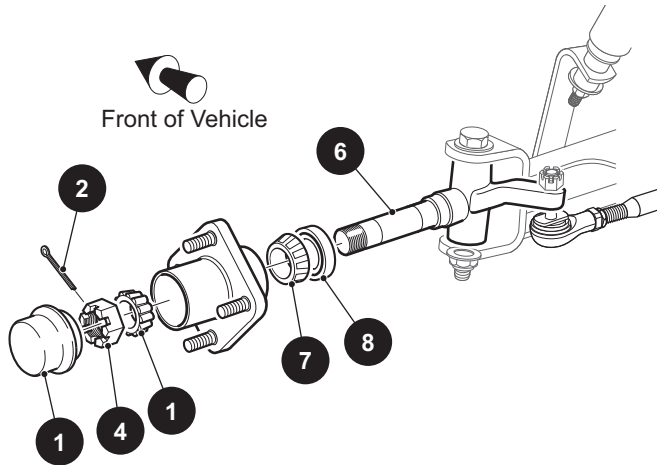

Figure 8 Hub Replacement
- Remove the dust cap (1), cotter pin (2) and castellated nut (3) (Ref. Figure 8).
- While holding outer wheel bearing (4) in place, slide hub (5) from spindle (6) and discard.